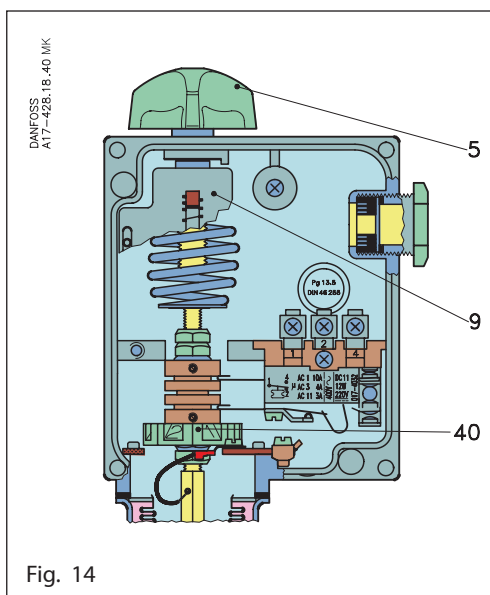
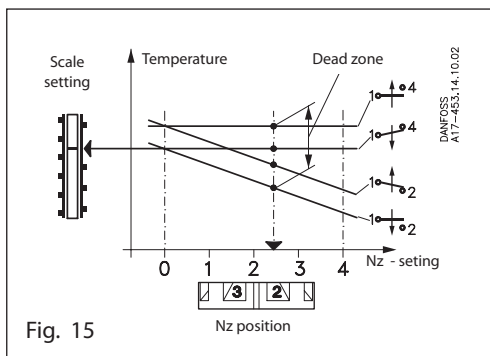

Fig. 14
Fig. 15
The range is set using the setting knob (5), fig. 14, while reading the main scale (9). The set value is the break temperature for contacts 1-4, fig. 15. The required neutral zone can be found in the diagram for the unit concerned, fig. 16. The position at which the neutral zone disc (40) must be set can be read from the low scale in the diagram.